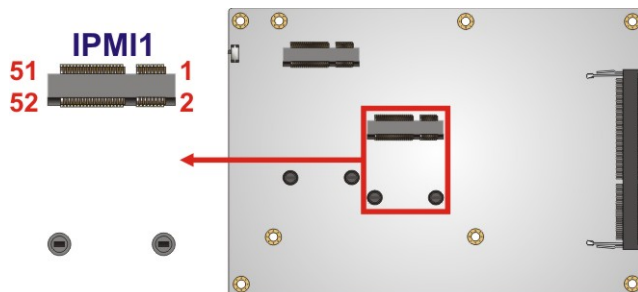

Figure 3-14: iRIS Module Slot Location
CN Location:	See Figure 3-14
- CN Location:** See **Figure 3-14**